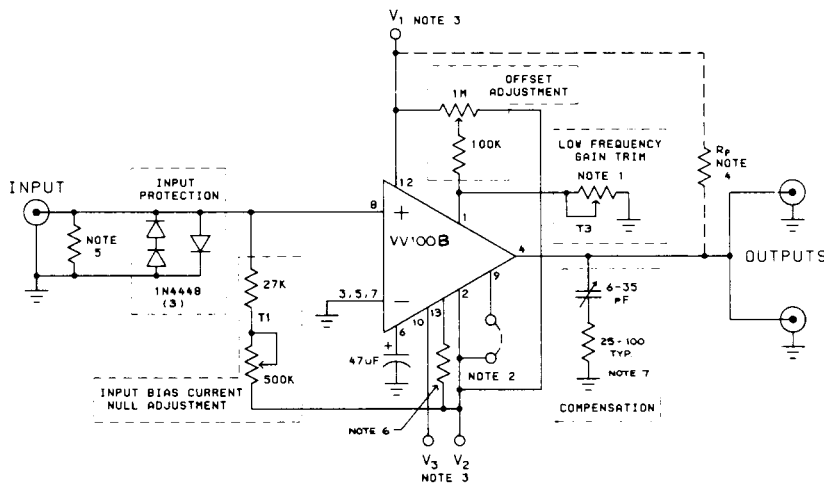

Figure 1
6. See Figure 1.
Figure 1 shows a typical application circuit for the VV100B and is the circuit on the LeCroy VV100BTB amplifier. Here input trim T1 is accomplished by the series combination of a 27 kΩ resistor and a 500 kΩ potentiometer. Trim T2 is set by the 1 MΩ potentiometer and series 100 kΩ fixed resistor. A fixed resistor to ground sets the low frequency gain trim (T3). High frequency compensation is set by the 51 Ω, 6-35 pF combination.
Proper termination and protection must be supplied to the input. In most cases, input to the amplifier will be via 50 Ω cable. In this case, a 50 Ω resistor from the input (pin 8) to ground should be employed. In addition, three 1N4448 or equivalent diodes to ground as shown in Figure 1 will provide overload protection. The input DC level must be trimmed to zero by a trim resistor (T1) to a negative supply. Where the best DC stability is required, this supply should be regulated. Note that fluctuations in the input offset will appear at the output amplified 10 fold.
A current of about 30 mA from +6 V must be supplied at pin 12. In addition, two negative supplies, V_2 and V_3 , are recommended. V_2 (pin 2) requirement is 20 mA at a voltage between -6 and -12. V_3 (pin 10) is to be set 12 V more negative than V_2 . For example, with V_2 set to -12 V, V_3 should be -24 V. The VV100B requires about 8 mA from the V_3 supply. Proper bypass requires at least 6.8 μ F tantalum capacitors to ground from pins 2, 12, (and 10 if three voltages are used) and 47 μ F on pin 6. Minimum length leads should be employed. Be sure to observe proper polarity. See Figure 1. Model VV100B can be operated with only two proper power supplies at the expense of risetime and linearity. For this configuration, tie pin 2 to pin 9, set $V_2 = -6$ V to -12 V, V_3 is omitted and $V_1 = +6$ V.
The LeCroy Model VV100BTB provides the high bandwidth circuitry, shown in Figure 1, in a ready-to-use format. The 3 inch \times 3 inch \times 1.6 inch enclosure size of the device allows one to use the Model VV100B in locations too small for many fast amplifiers. The amplifiers employ Lemo type coaxial cable connectors. The units may be purchased with a Model VV100B. The trim and compensation variables are factory adjusted for optimum high-speed performance.